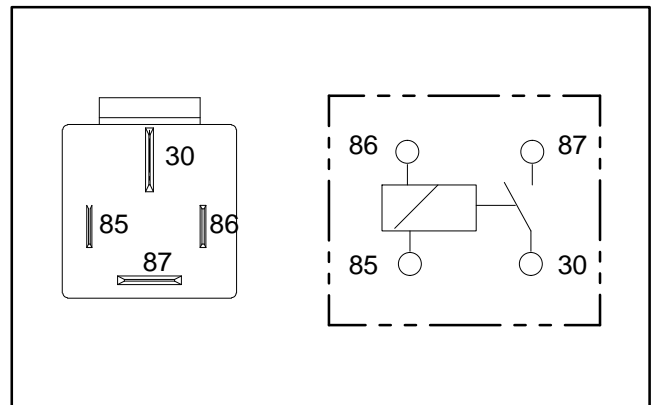

Figure 70
3. The relay terminals are marked as shown (Fig. 70).